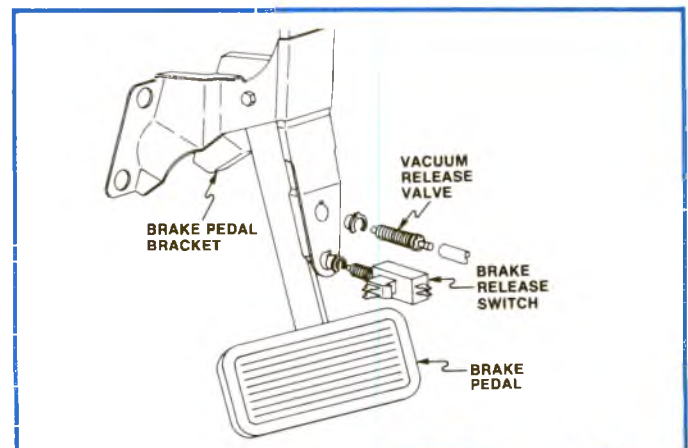

Figure 1-8, Brake Activated Electric and Vacuum Cruise Release Controls.
4. Combination Cruise Release Electric Switch and Vacuum Release Valve (figure 1-8) . . .